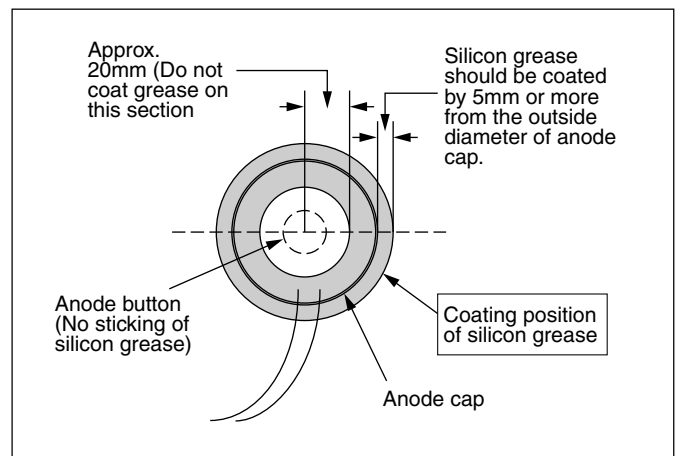

Fig. 6
- Coat silicon grease on the section around the anode button. At this time, take care so that any silicon greases does not sticks to the anode button. (Fig. 6)